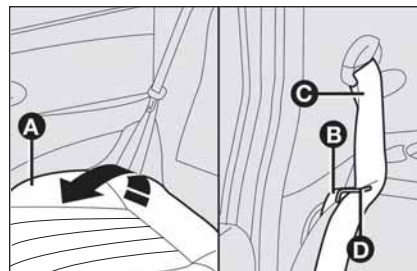

fig. 105
- ☐ check that each of the two side seat belts **C-fig. 105** is inserted in the corresponding seat belt guide **D**;